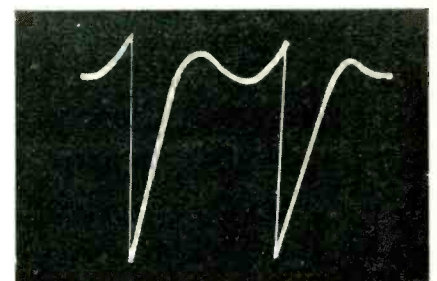

Fig. 11. Wave shape at point C on *T1* in Fig. 9; 125 volts p. to p.
4. Short antenna terminals and connect 'scope lead to *point C* on *T1*. Adjust the slug of coil C-D for a pattern as in *Fig. 11*. Make sure a symmetrical sine wave appears between the sharp portions of the curve.